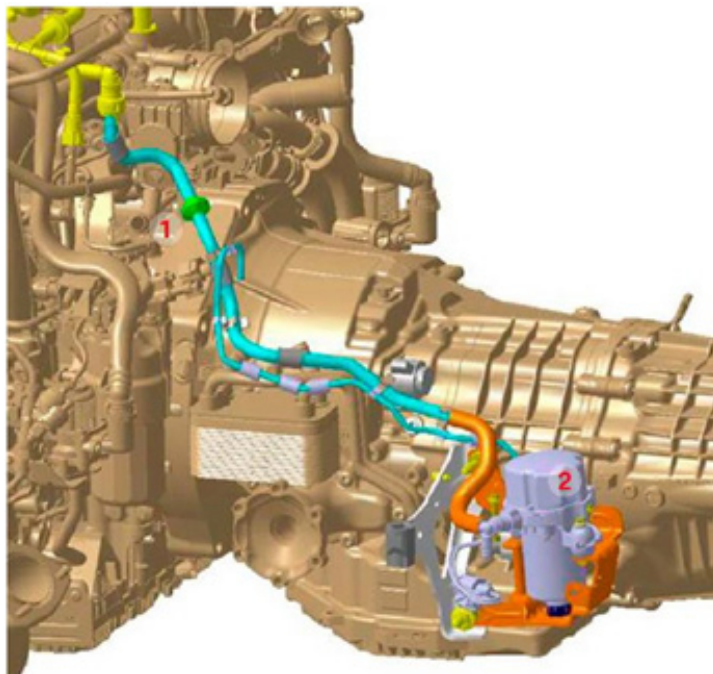

Figure 3
- b. Check the vacuum line connections on the electric vacuum pump (2 in Figure 3 below).
- Figure 3: numbers 1 and 2